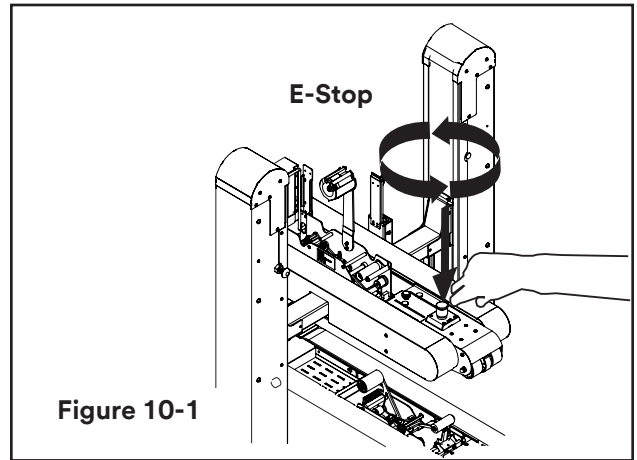

Figure 10-1
- To restart machine, rotate the emergency stop switch clockwise to release the switch latch (**Figure 10-1**).